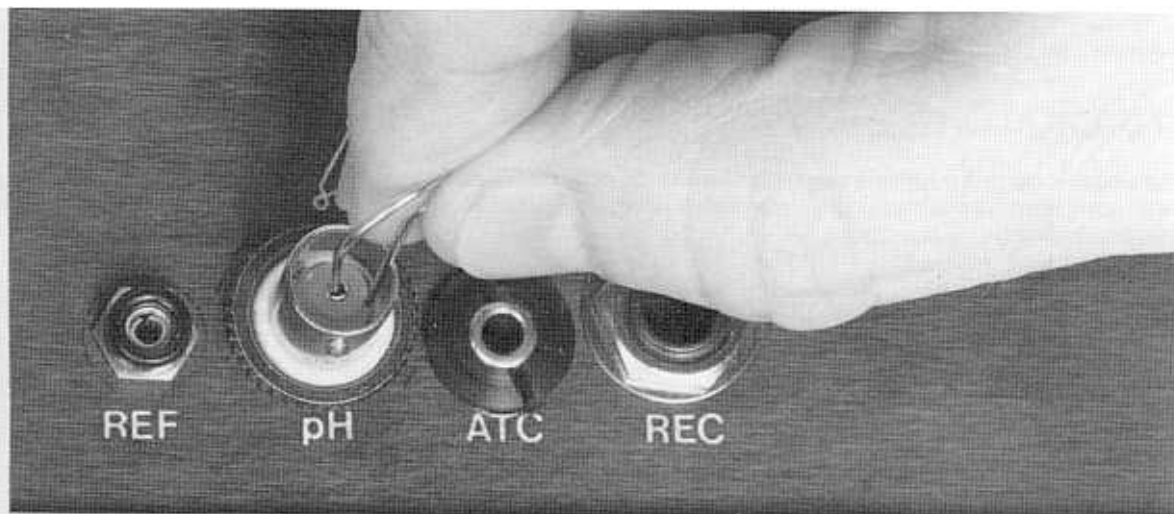

Figure 8. Shorting the Instrument Input
2. Insert one end of a paper clip into the small hole in the center of the meter electrode connector. Hold the other end of the clip to the inside barrel of the same connector, as shown in Figure 8. This short circuits the instrument input, effectively making instrument input 0 millivolt, which is about 7.0 pH.